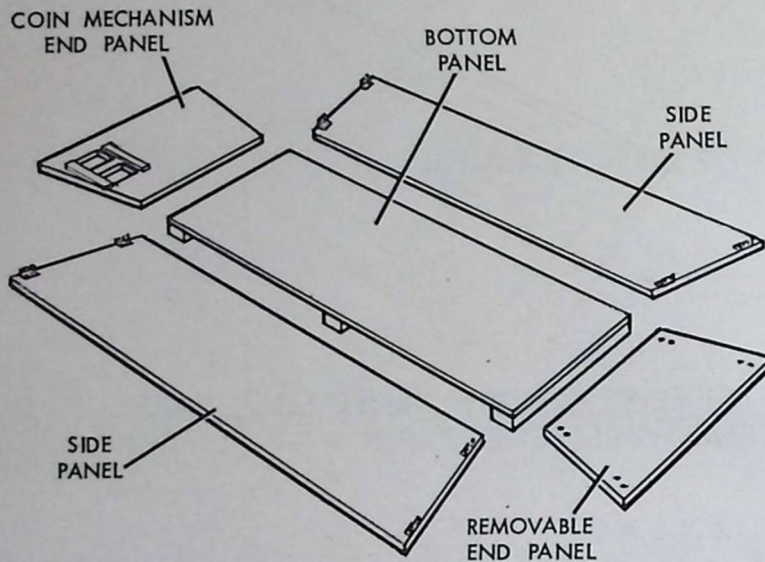

FIGURE 1
1. Figure 1 shows the base frame panels that are to be assembled.